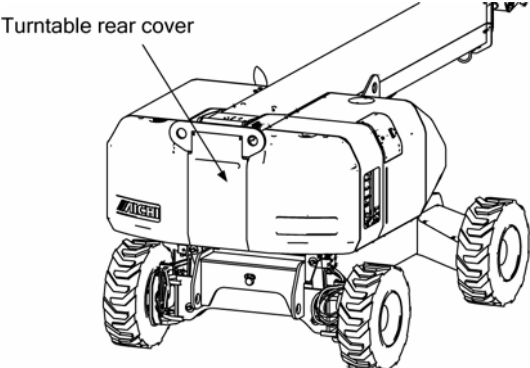

Fig. 2-41
16) Take the turntable rear cover off. (Fig. 2-41)